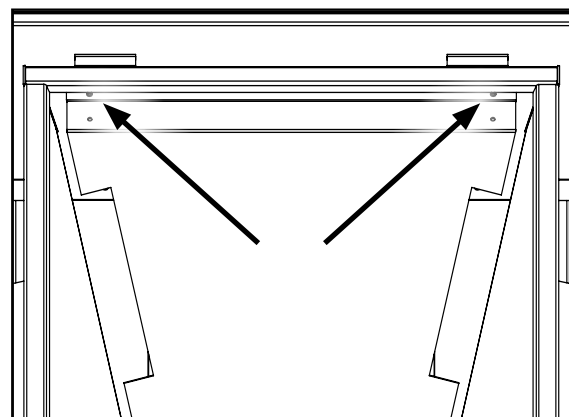

Figure 49. Baffle Screws.
3. Next, remove the firebox baffle by unscrewing the two screws indicated in Figure 49. Lower the front of the baffle down and then lift it out of the two locating screws at the rear of the firebox.